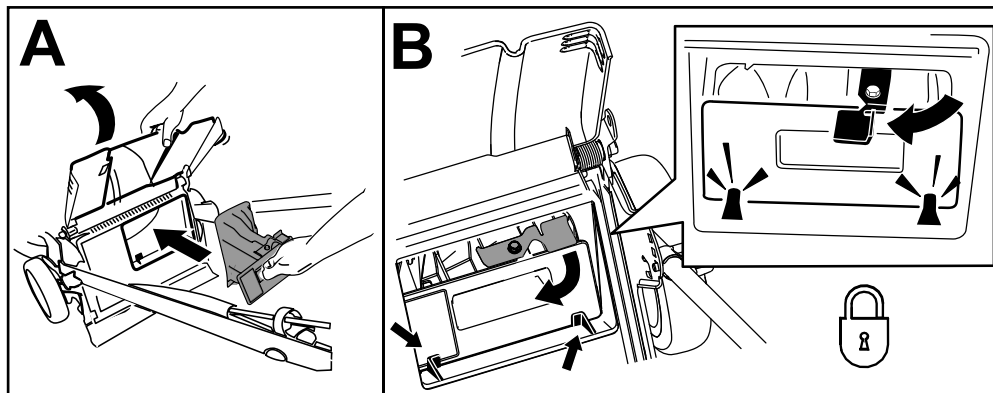

Figure 16
**Important:** Ensure that the rear plug is locked in place. To lock the plug, raise the rear door, firmly push the plug in until it snaps into place behind the tabs (A of Figure 16), and rotate the lever on the plug to the left (B of Figure 16).